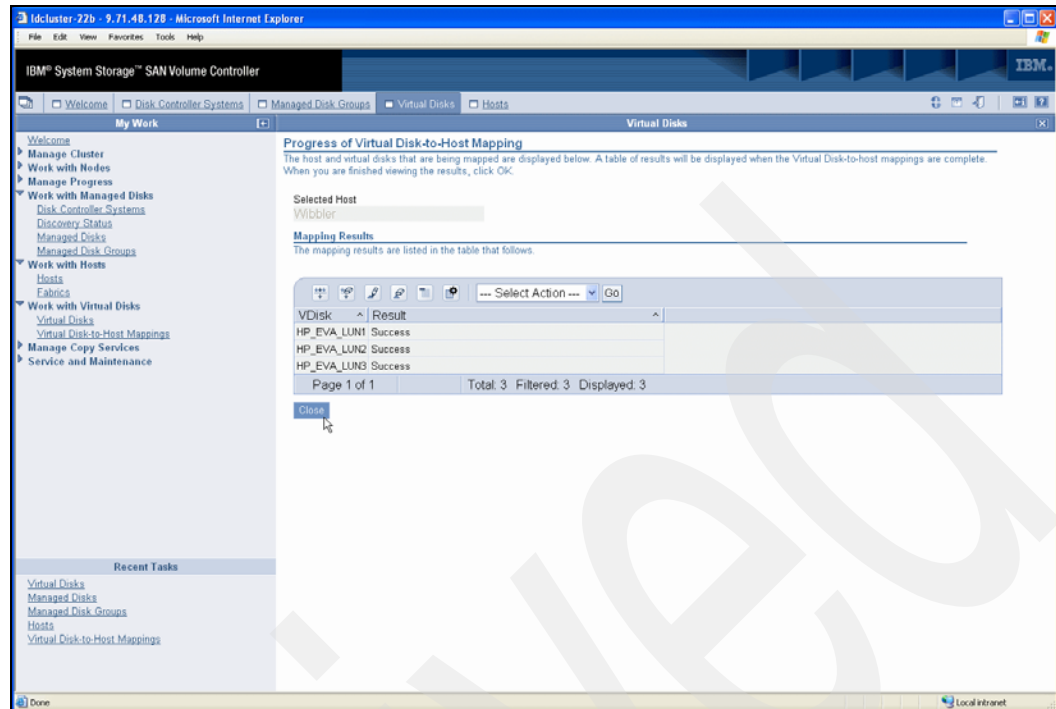

Figure 7-24 Completion panel from map VDisk to Host operation
5. The next panel (Figure 7-24) indicates that your VDisks have been mapped successfully.